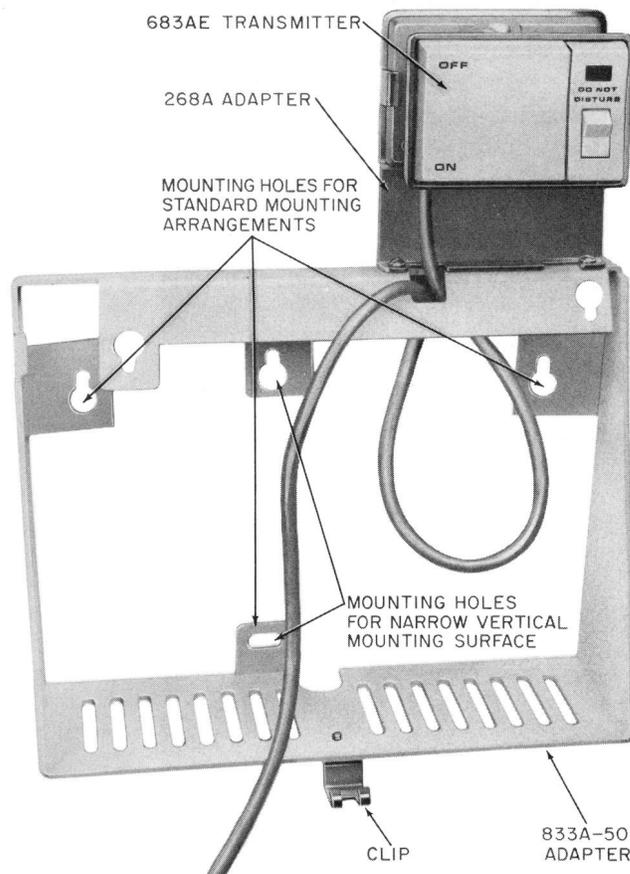
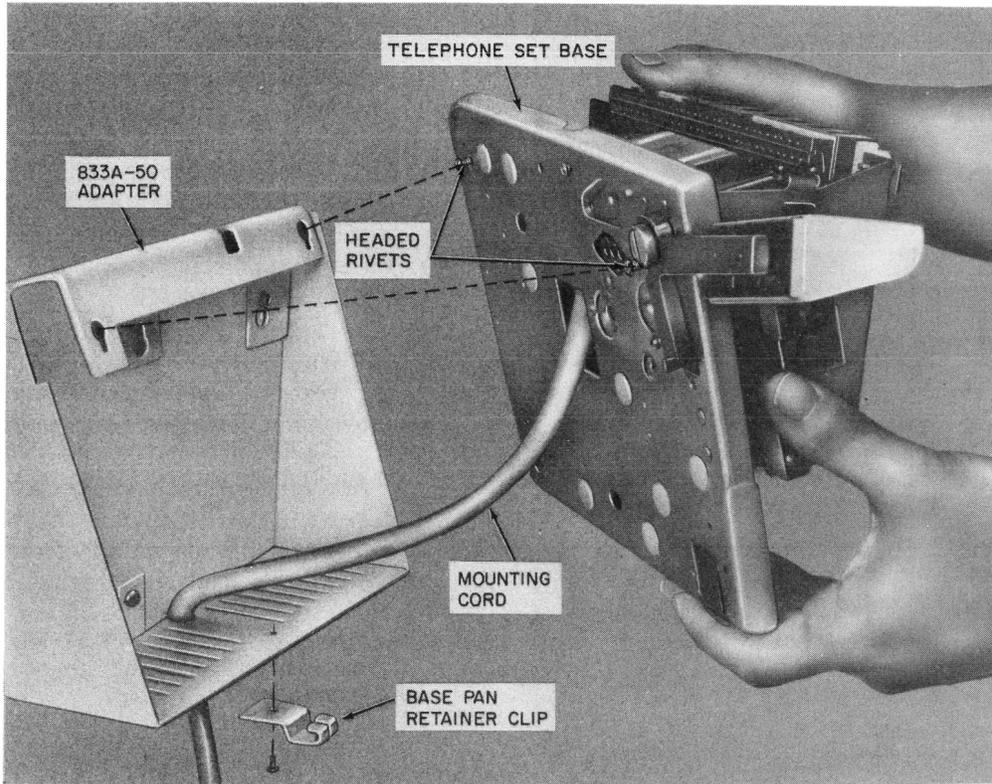

Fig. 3—833A-50 Adapter with 268A Adapter and 683AE Transmitter
Fig. 4—Mounting Telephone Set Base onto 833A-50 Adapter
3.02 All DM and EM (wall type) sets are shipped with an 833A-50 adapter, screw, and clip (Fig. 3) which are used for mounting the telephone set to a vertical surface. Install the 833A-50 adapter and telephone set as follows.
(1) Mount the adapter to the wall or vertical surface as shown in Fig. 3, using appropriate fasteners (Section 080-720-105). If the mounting cord is to be dressed down the wall, it is necessary to pass the cord through the notch in the adapter before final attachment of the adapter to the wall (Fig. 4). If the cabling enters through the wall, the mounting cord may be contained within the adapter.
(2) Remove faceplate and housing from telephone set.
(3) Hang the telephone set on the adapter from the headed rivets that protrude from the base pan (Fig. 4).
(4) Secure the telephone set base with the clip, and screw at the bottom of the adapter (Fig. 3).
(5) Install telephone set options (see paragraph 3.05).
(6) Replace housing and faceplate.
- (1) If feature is to be added to DM- or EM-type set, a 268A adapter must be used as follows:
- (a) Mount 268A adapter onto 833A-50 adapter with two screws as shown in Fig. 3
manual DO-NOT-DISTURB switch. Depression of the switch (Fig. 3) prevents voice signaling, alerting tone, and activation of the microphone. A distinctive tone is sent to any station that is calling another station on *dial intercom* when the called station does not want to be disturbed. The only signal that can be received by a station or answering position with the DO-NOT-DISTURB switch activated are tone ringing and the alerting tone and one way voice signaling associated with an *automatic signaling intercom*.